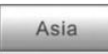

Figure 4-1 Sample Vehicle Menu Screen
1. Tap the **Diagnostics** application button from the MaxiSys Job Menu. The Vehicle Menu displays. (**Figure 4-1**)